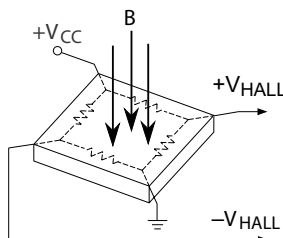

Figure 1: Hall Element, Basic Circuit Operation
The Hall element can be considered as a resistor array similar to a Wheatstone bridge. A basic circuit is shown in Figure 1, demonstrating the effect of the magnetic field flux density (B) impinging on the Hall element. When using Hall-effect technology, a limiting factor for switch point accuracy is the small signal voltage (V_{HALL}) developed across the Hall element. This voltage is disproportionately small relative to the offset that can be produced at the output of the Hall device, caused by device overmolding, temperature dependencies, and thermal stress.